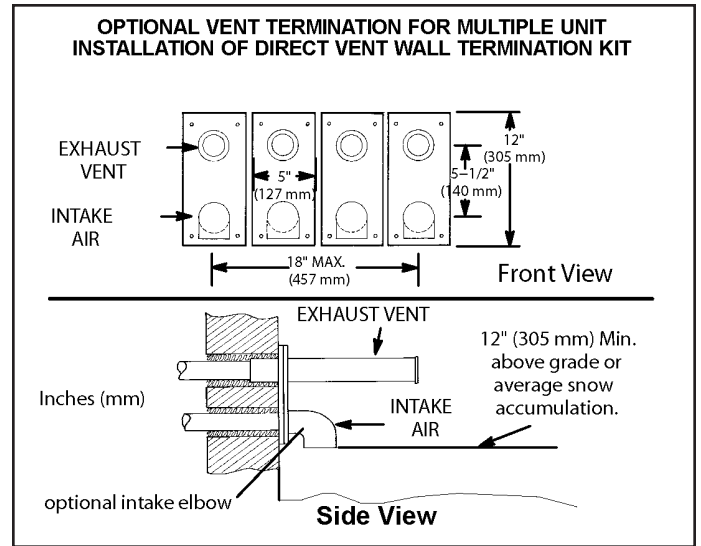

Figure 42.
8. A multiple furnace installation may use a group of up to four terminations assembled together horizontally, as shown in Figure 42.